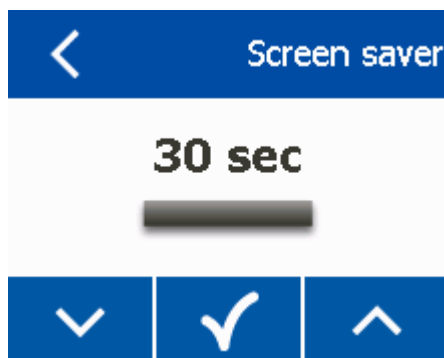

Fig. 100: Screen saver
The 'Screen saver' screen (Fig. 100) allows you to set the time after which the screen saver shall be activated. The screen saver displays when the screen has not been touched for the set number of seconds. You can set any time between 15 seconds and 60 seconds.
- ⇒ The 'Screen saver' screen (Fig. 100) displays.